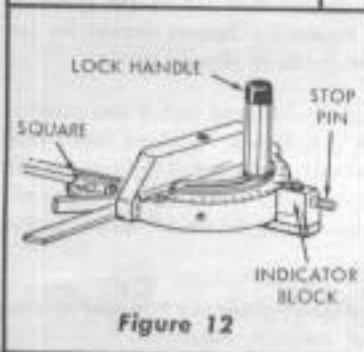

Figure 12
(1) Loosen the handle and push stop pin firmly into the middle detent ("0" position on the scale). Tighten the handle. (See figure 12.)
(2) Using a combination square, check for an exact 90-degree angle between the miter gauge and rod assembly. If this measurement is exactly 90 degrees, the adjustment has not been disturbed and the gauge is ready for use.
(3) If not exactly 90 degrees, loosen the handle and the two screws that attach the indicator block to the rod assembly. Hold all parts solidly and tighten the handle. Then shift the indicator block until the stop pin can be seated fully in the detent and tighten the two screws. Make sure the indicator block is aligned straight with the rod assembly after screws are tight.